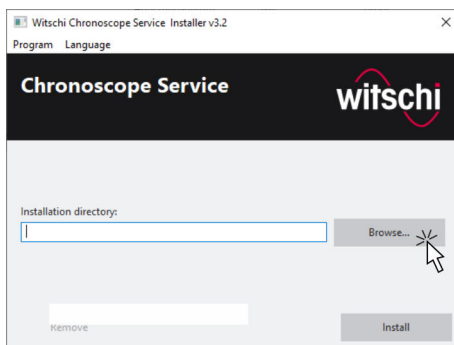

Fig. 3: Selecting the file location
4. ➤ Select the installation directory for the software on the PC or tablet computer (Fig. 3).